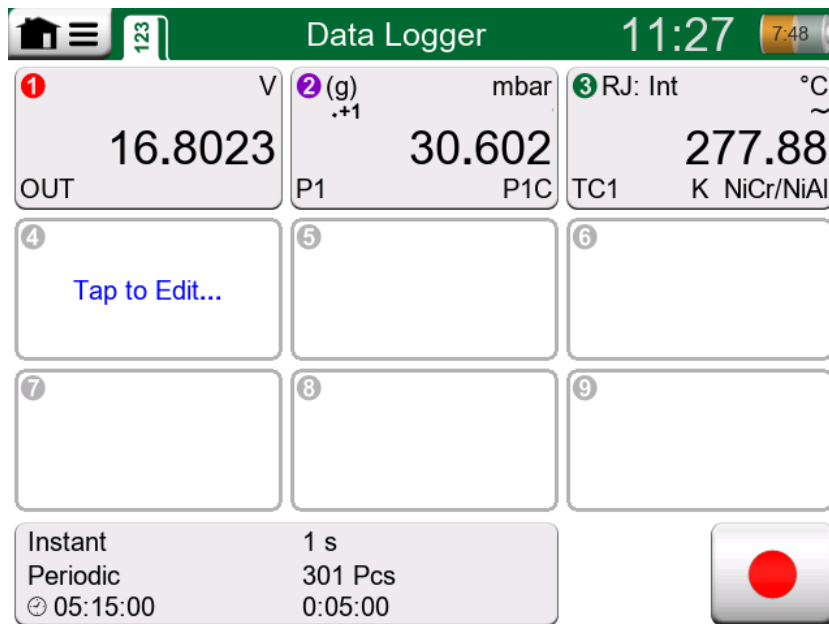

Figure 83: Three configured channels in main configuration window
- A third page is available for measurement channels only: You may define a trigger that invokes the Data Log. When triggering is configured, a symbol indicates it. See Figure 83: Three configured channels in main configuration window.